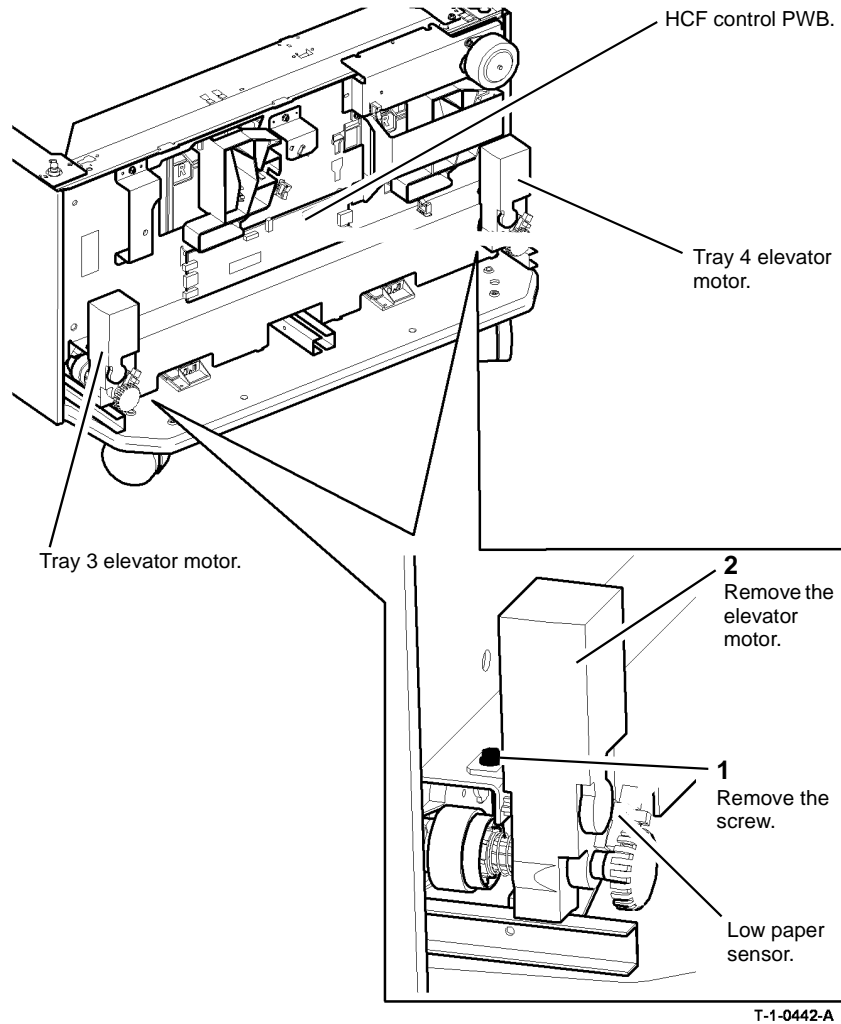

Figure 1 Elevator motor removal
- Remove the tray 3 or tray 4 elevator motor, Figure 1.